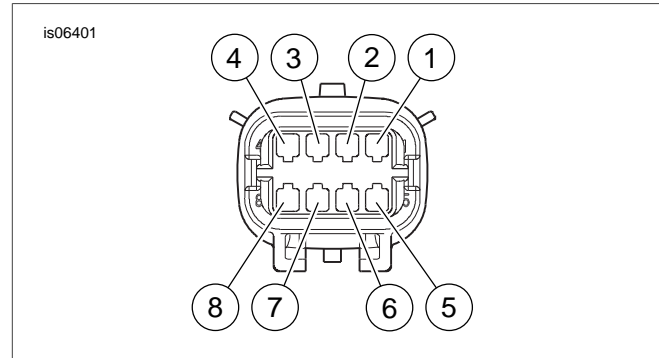

Figure 1. Molex Eight-Way Pin Housing 72478-07BK (Wire-End View): Cavity Identification
- Get the eight-way Molex pin housing (9) from the kit. See Figure 1. Follow the instructions in the service manual to